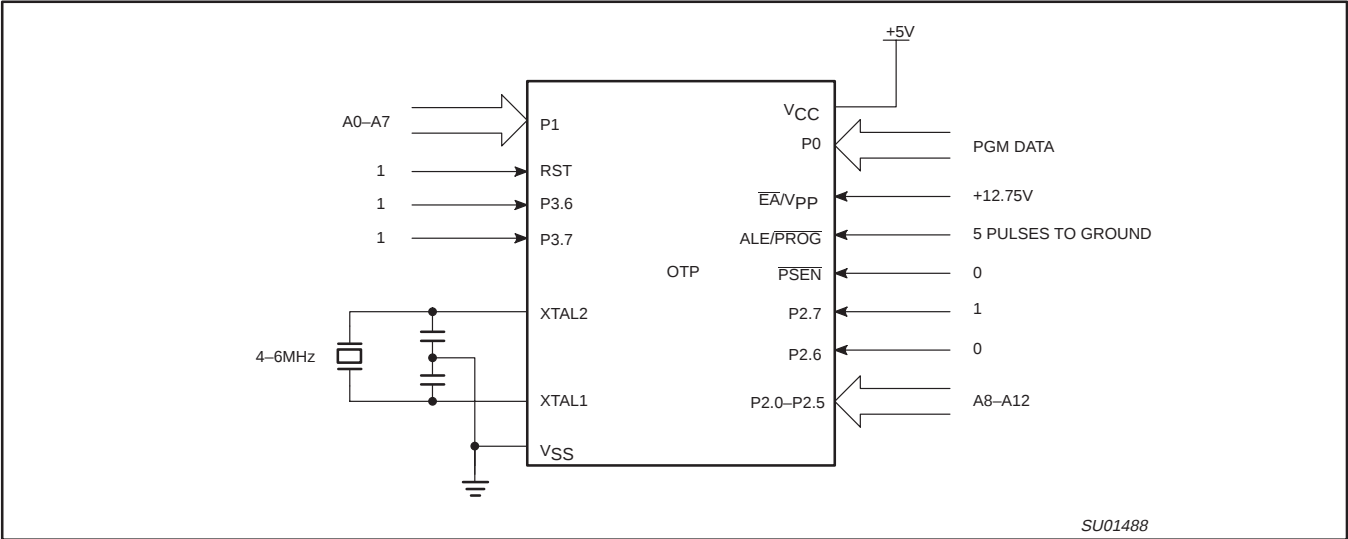
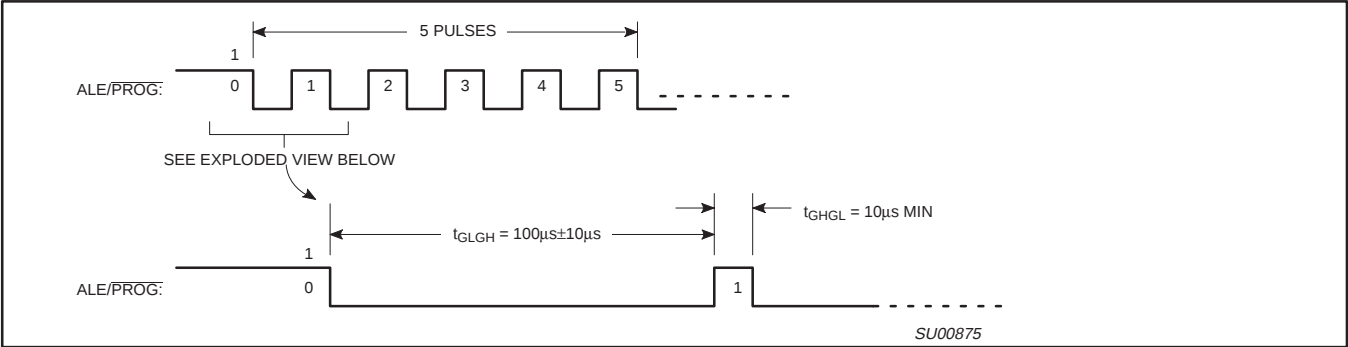
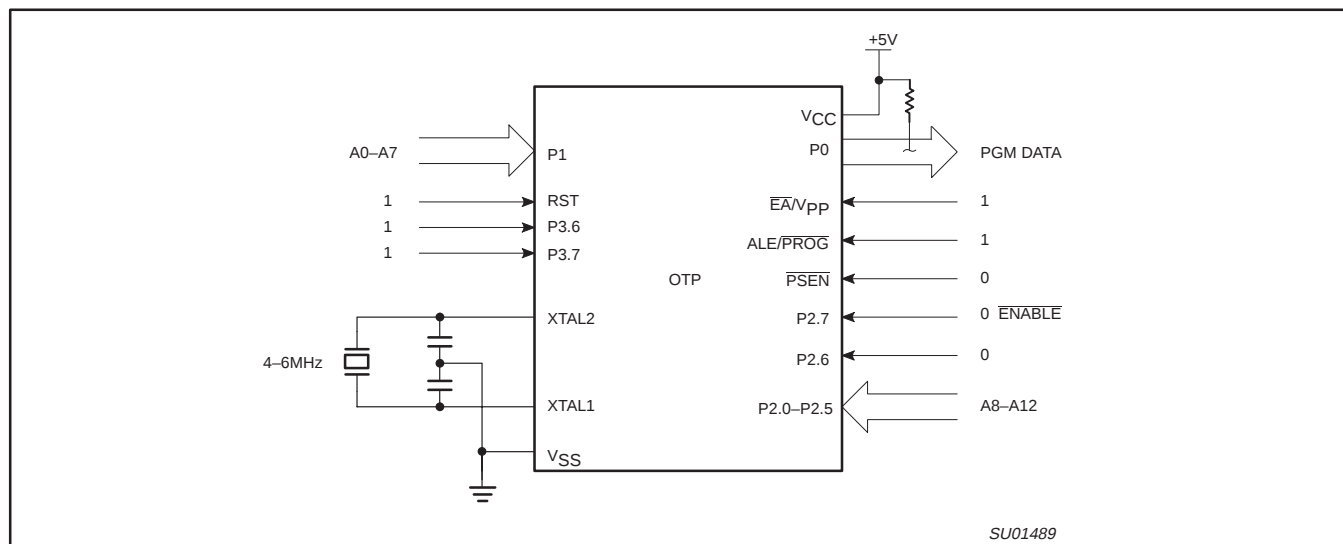

Figure 40. Programming Configuration
Figure 41. $\overline{\text{PROG}}$ Waveform
Figure 42. Program Verification
Table 9 shows the logic levels for reading the signature byte, and for programming the program memory, the encryption table, and the security bits. The circuit configuration and waveforms for quick-pulse programming are shown in Figures 40 and 41. Figure 42 shows the circuit configuration for normal program memory verification.
The setup for microcontroller quick-pulse programming is shown in Figure 40. Note that the device is running with a 4 to 6 MHz oscillator. The reason the oscillator needs to be running is that the device is executing internal address and program data transfers.
The address of the EPROM location to be programmed is applied to ports 1 and 2, as shown in Figure 40. The code byte to be programmed into that location is applied to port 0. RST, $\overline{PSEN}$ and pins of ports 2 and 3 specified in Table 9 are held at the 'Program Code Data' levels indicated in Table 9. The ALE/PROG is pulsed low 5 times as shown in Figure 41.
If security bits 2 and 3 have not been programmed, the on-chip program memory can be read out for program verification. The address of the program memory locations to be read is applied to ports 1 and 2 as shown in Figure 42. The other pins are held at the 'Verify Code Data' levels indicated in Table 9. The contents of the address location will be emitted on port 0. External pull-ups are required on port 0 for this operation.
- * FOR PROGRAMMING CONFIGURATION SEE FIGURE 40.
FOR VERIFICATION CONDITIONS SEE FIGURE 42.